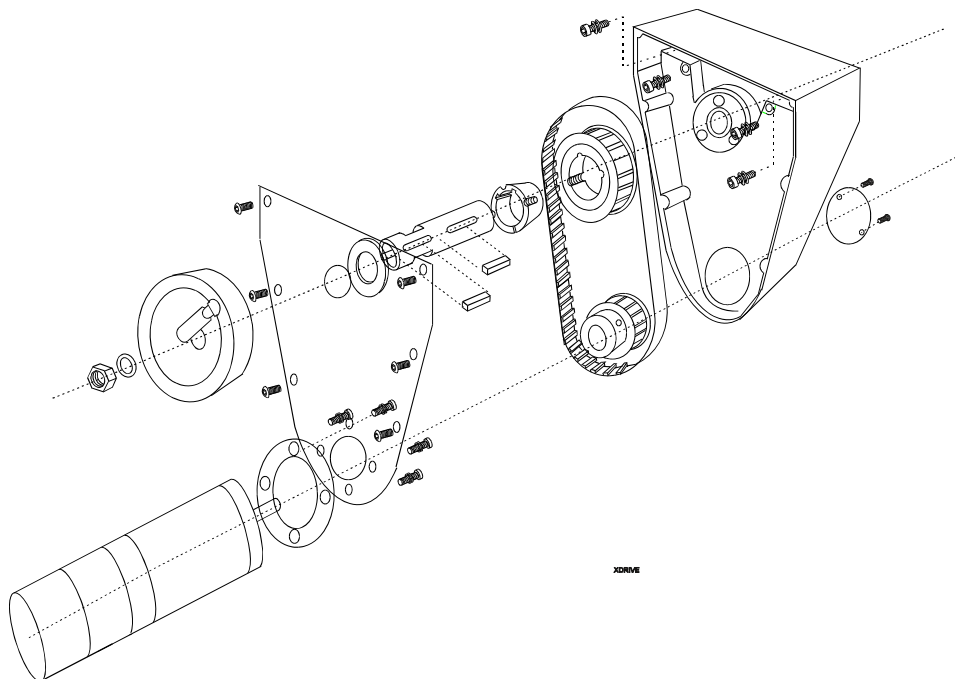
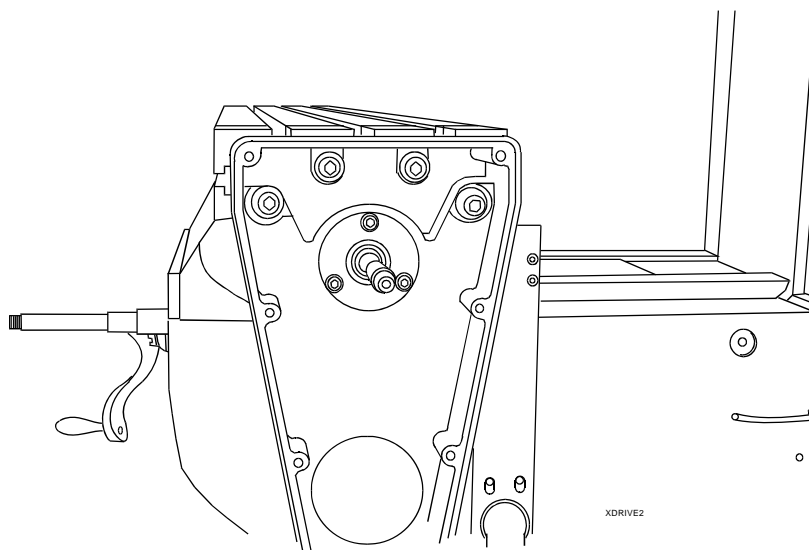

Figure 3-7, Exploded View of X-Axis Drive Assembly
Figure 3-8, Casting Installation
4. Remove the brass shim, P/N 66100413, that is taped to the housing. Set it aside; it will be used later. Refer to **Figure 3-7**, and **Figure 3-8**.